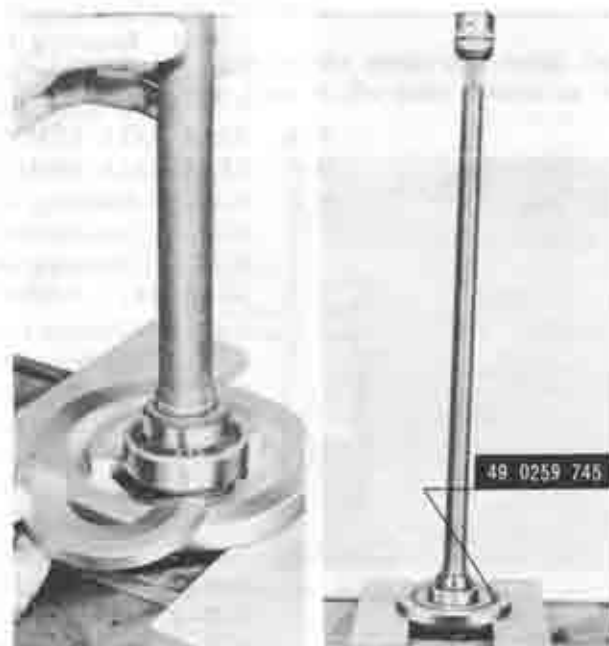

Fig. 9-3 Removing rear axle shaft bearing
2. Using the bearing replacer (49 0259 745), support the spacer and press the axle shaft out of the collar and bearing, as shown in Fig. 9-3.